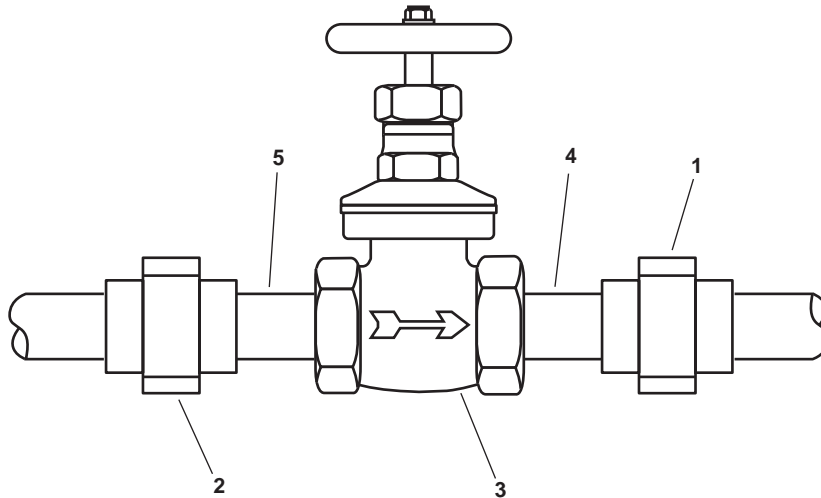

Figure 3. Typical Threaded Globe Stop Check Valve
1. Place a suitable drain pan under the unions (figure 3, items 1 and 2) of the threaded globe stop check valve (figure 3, item 3) to be removed.
2. Loosen the unions (figure 3, items 1 and 2) and allow the fluid to drain into the suitable drain pan.
3. Remove the unions (figure 3, items 1 and 2) from the piping (figure 3, items 4 and 5).
4. Remove the threaded globe stop check valve (figure 3, item 3) and the piping (figure 3, items 4 and 5) as an assembly.
- Remove the attached piping (figure 3, items 4 and 5) from the threaded globe stop check valve (figure 3, item 3). Retain the piping for installation.
- Clean the threaded ends of the piping (figure 3, items 4 and 5) with a wire brush and apply antiseizing tape to the threaded ends of the piping.
- Install the piping (figure 3, items 4 and 5) in the threaded globe stop check valve (figure 3, item 3).
3. Install the threaded globe stop check valve (figure 3, item 3) and the piping (figure 3, items 4 and 5) between the unions (figure 3, items 1 and 2).
4. Tighten the unions (figure 3, items 1 and 2).